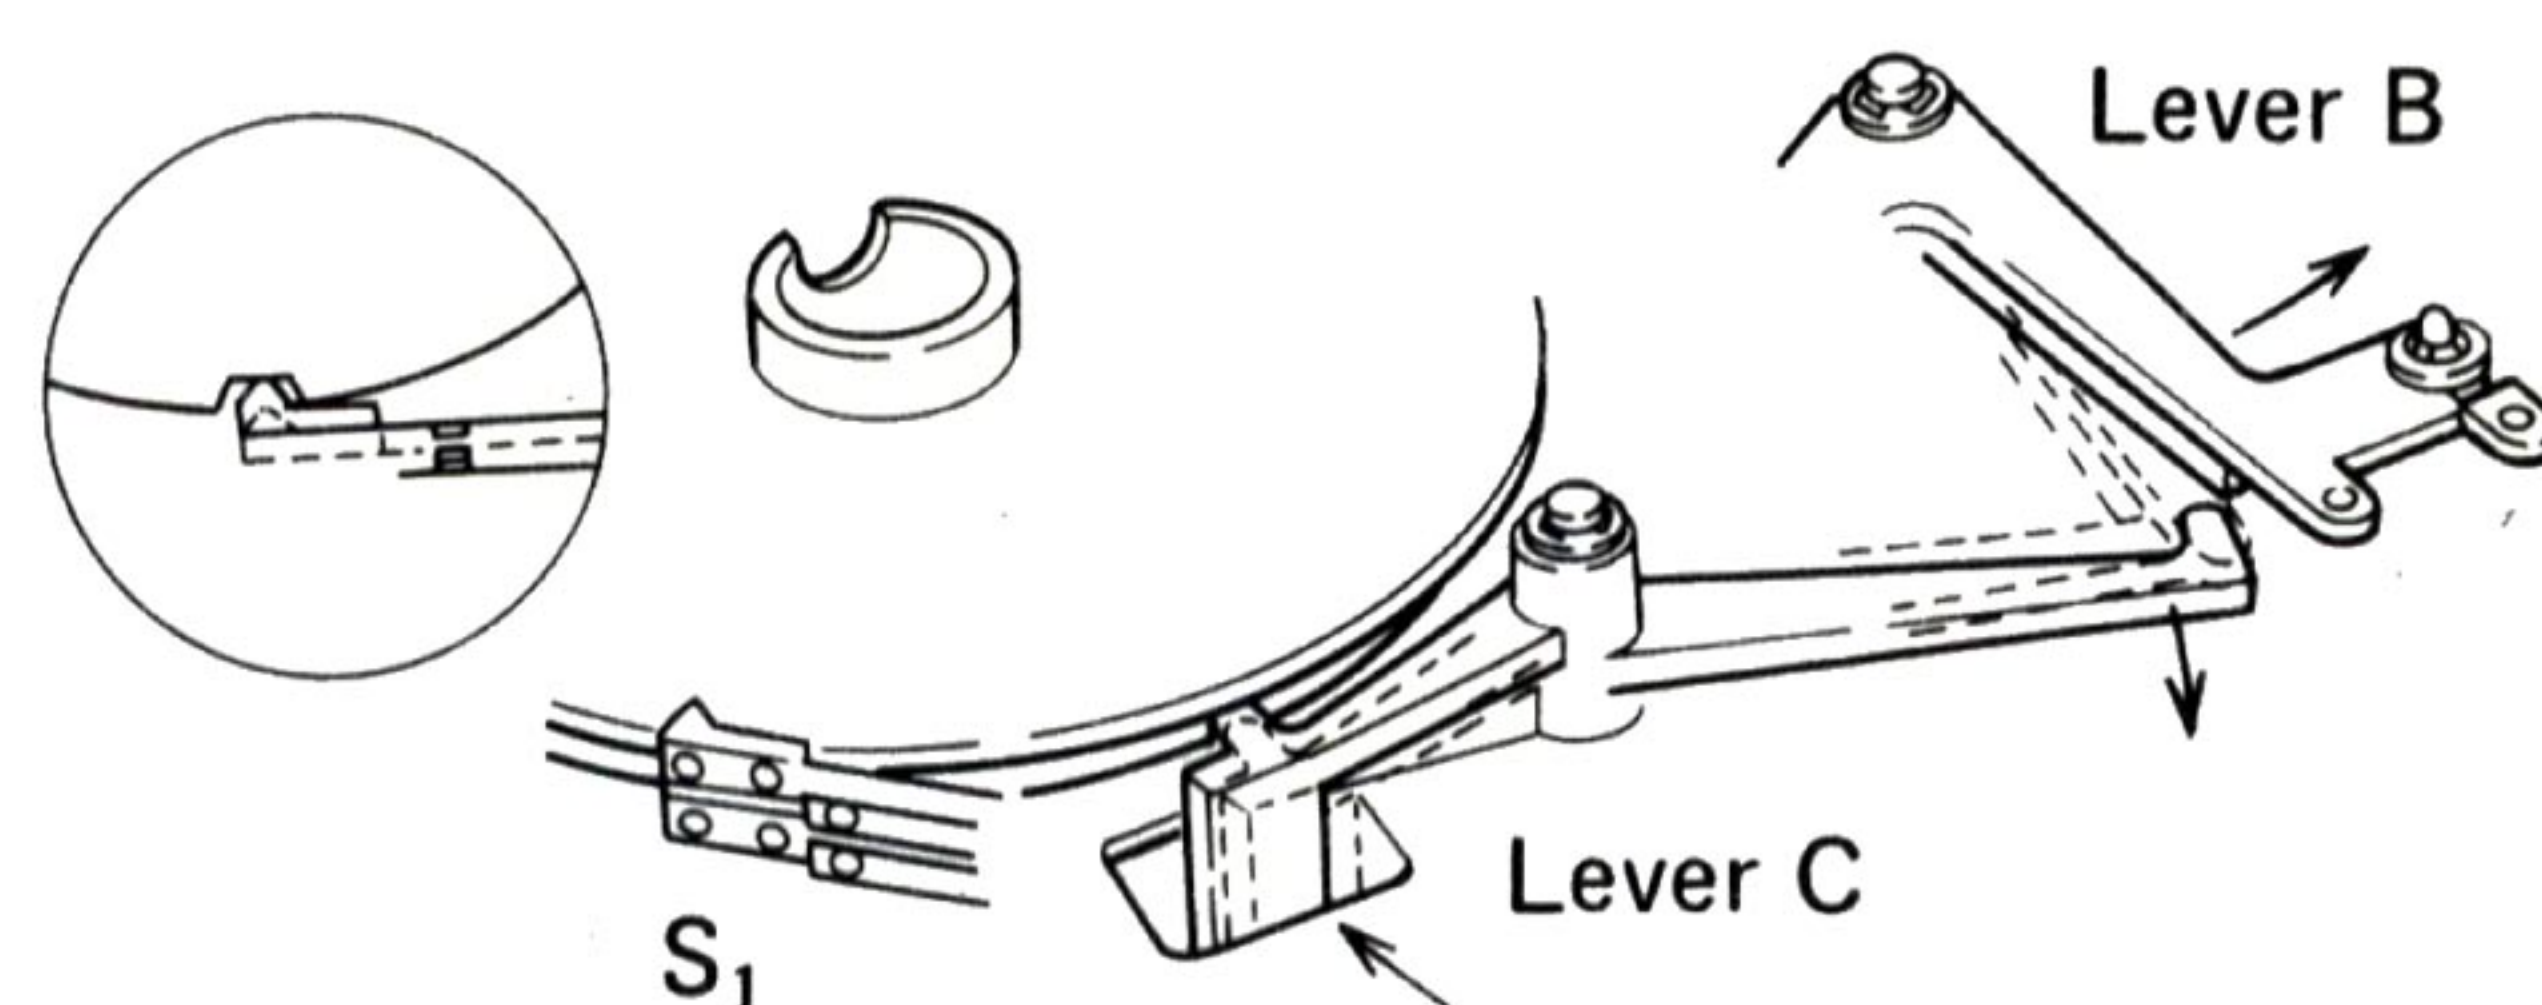

Fig. 19
- When cam A has stopped rotating, the output shorting switch  $S_1$  opens, letting the phono output signal pass on to the amplifier. Lever C also releases lever B (Fig. 19).